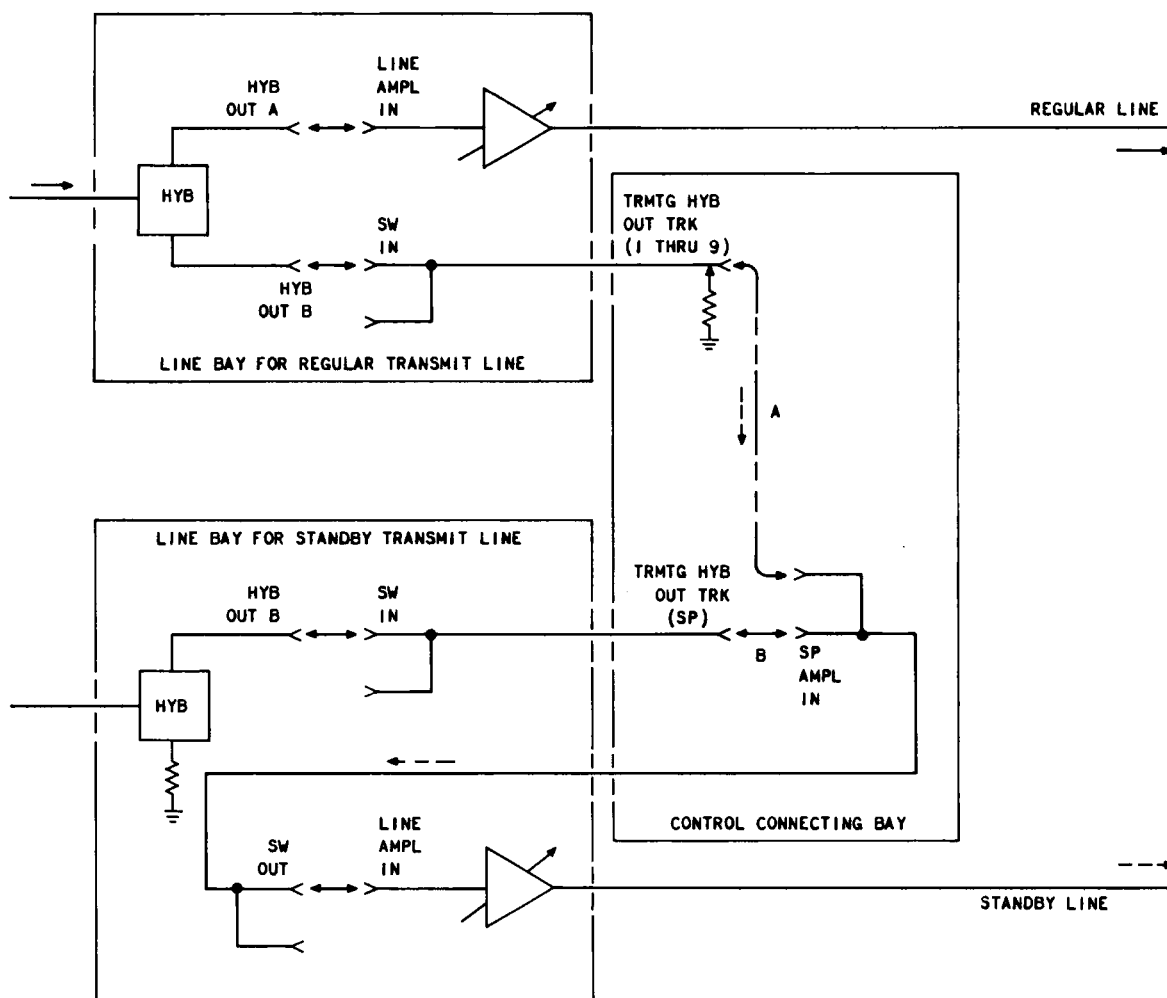

Fig. 2—Line Protection Patch for Transmit Line
2.01 Line patching arrangements are shown in Fig. 2 and 3.
2.02 Signals on a regular transmit line are patched to the standby line as shown in Fig. 2.